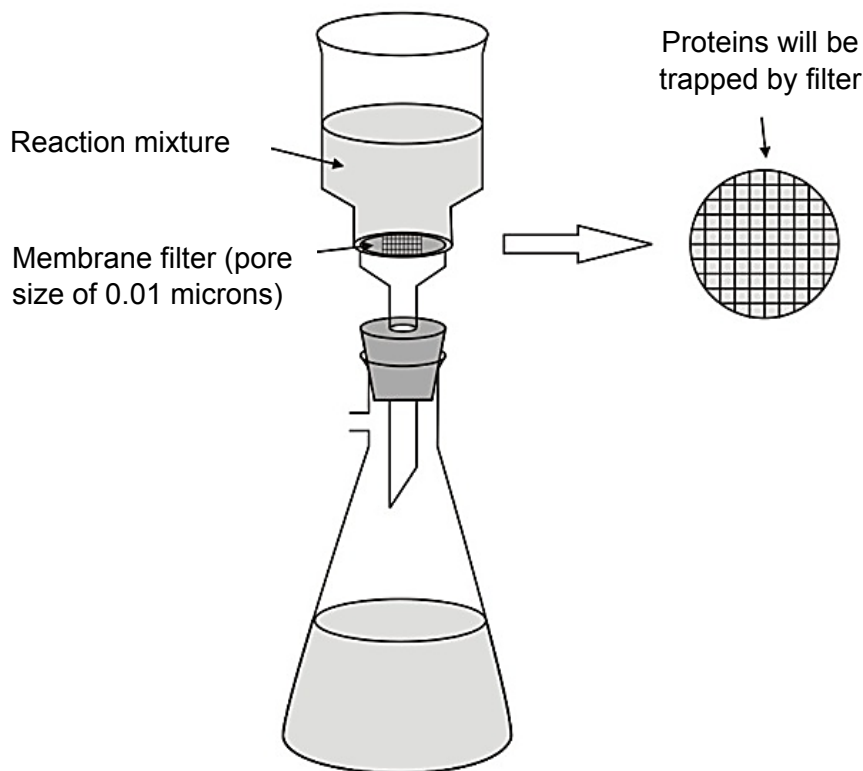

Fig. 3.1
- apparatus shown in Fig. 3.1, can be used to separate proteins from ions and disaccharides.